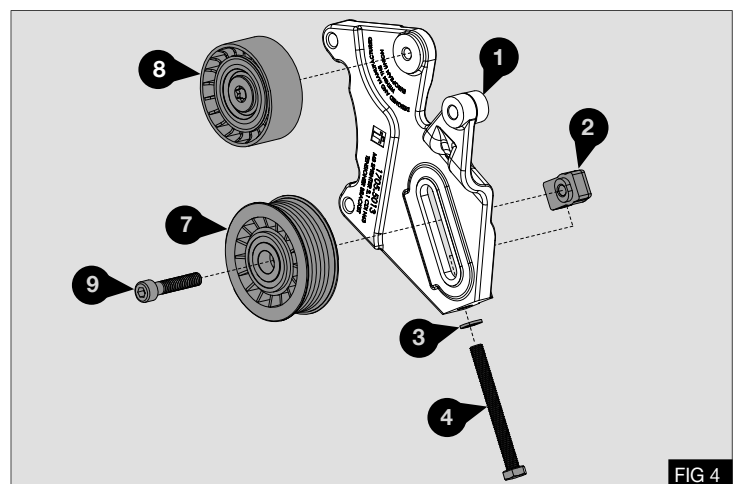

FIG 4
- Mount the original idle pulley ⑧ previously removed onto the tensioner bracket ① in the position shown - Fig 4
- Torque bolt ⑧ to 25Nm / 18lbft using a calibrated torque wrench.
- Mount the supplied idle pulley ⑦ on to the tensioner bracket ① using bolt ⑨, draw bolt mounting block ②, washer ③ and M8 x 80 bolt ④ in the position shown. Leaving the idle pulley tensioner assembly loose - Fig 4